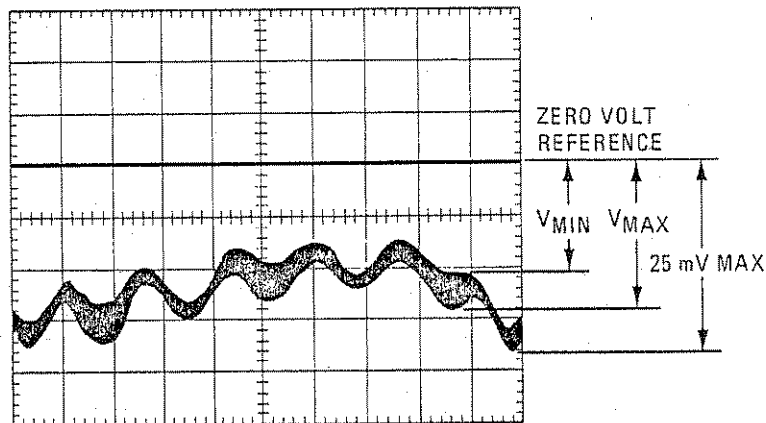

Figure 4--12. Typical Low Frequency Swept VSWR Measurement
1. Connect equipment as shown in Figure 4--10.
4. Select several points on trace and calculate V_{MAX}/V_{MIN} (see Figure 4--12).
6. Convert V_{MAX}/V_{MIN} ratio noted in step 5 into source match SWR, using Figure 4--13 and the cable loss calculated in step 5. The SWR should be less than 1.9.
7. Connect equipment as shown in Figure 4--11.
11. Convert greatest V_{MAX}/V_{MIN} ratio noted in step 10 into source match SWR using Figure 4--13 on the 0 dB loss line. The SWR should be less than 1.9.